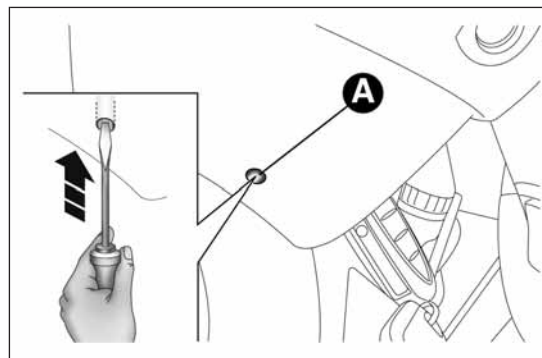

fig. 6
**If the battery is flat and the ignition key is engaged, the latter is locked in position. To remove the key manually, pull up the handbrake and insert the screwdriver supplied in the hole under the dashboard A fig. 6 pressing slightly, until the ignition key is removed.**